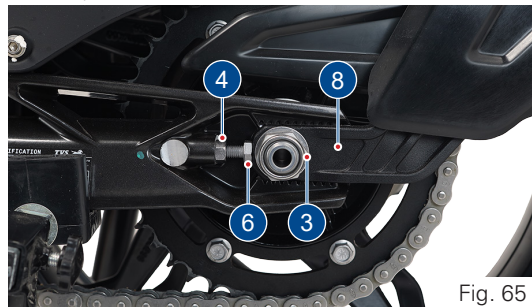

Fig. 65
- Remove the axle mounting nut (3, ref. Fig 65) using the proper tool from the tool kit (ref. page 162).
- Release the lock nuts (4 & 5) and screw-in the adjuster bolts (6 & 7) (ref. Fig. 65 & 66).